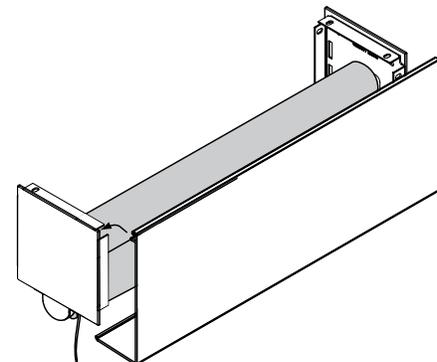

Figure 5
- ① Place groove along top of fascia over endcaps, and snap into place (see Fig. 5).